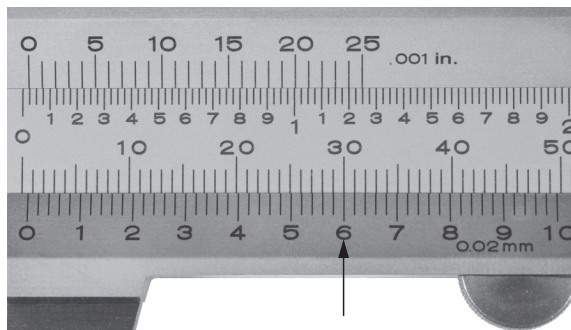

Figure 33: Reading a vernier caliper.
5. Which of the following measurements corresponds to the reading in millimeters shown in Figure 33? The small arrow shows a detail of the metric vernier scale.